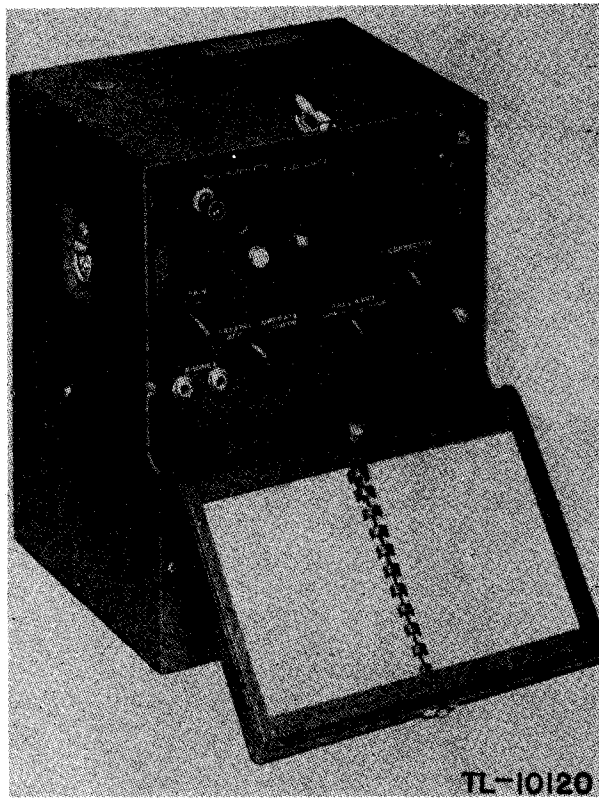
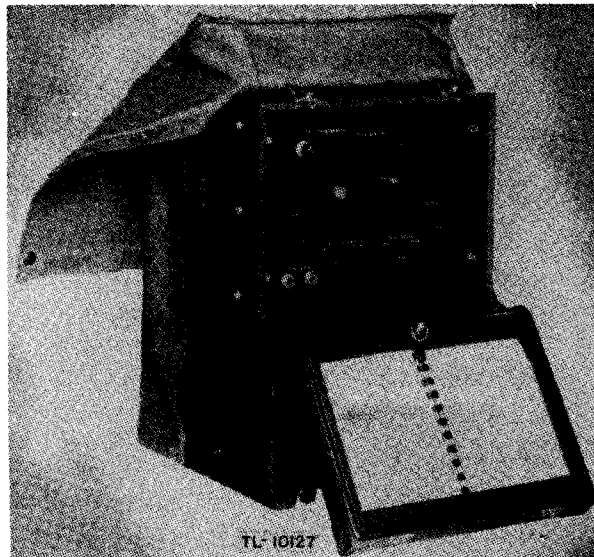

Figure 1. Frequency Meter BC-221-(&G), in metal cabinet.
Figure 2. Frequency Meter BC-221-(&G), in wooden cabinet.
b. The principal component of the set is Frequency Meter BC-221-(&), a heterodyne-type frequency meter, which is supplied in either of two types of cabinet: a black wrinkle-finished aluminum-alloy cabinet (fig. 1), or an olive-drab finished wooden cabinet. (See fig. 2.) The upper and largest compartment of the cabinet contains the frequency meter chassis and sometimes some of the spare parts. The next smaller compartment, at the bottom rear, contains the batteries. The smallest compartment, at the bottom front, contains either spare parts or the headset. (See figs. 19, 20, 21, and 25 for representative views.) A carrying handle and one or two snap latches are mounted on the top surface of the cabinet. Two small rings to which carrying Strap ST-19-A can be hooked, are mounted at the sides of the cabinet. The BC-221-Q, BC-221-AA, BC-221-AC, BC-221-AE, BC-221-AF, BC-221-AG, BC-221-AH, BC-221-AJ, BC-221-AK, and BC-221-AL frequency meters are normally supplied with the wooden cabinet. Some BC-221-Q and BC-221-AA frequency